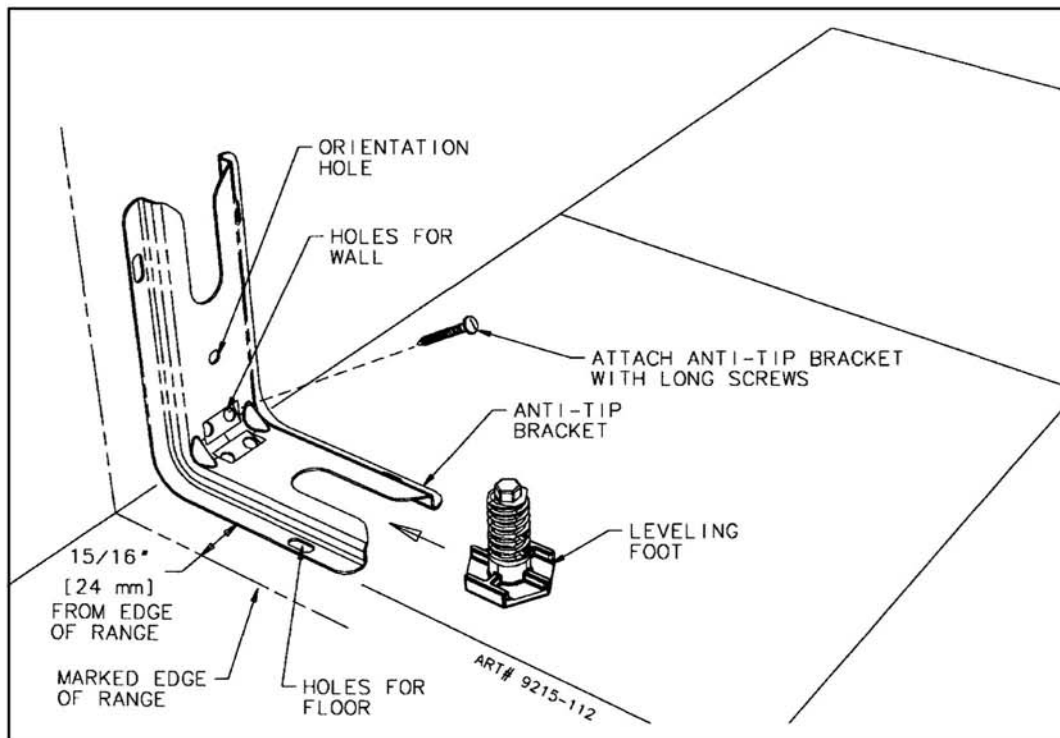
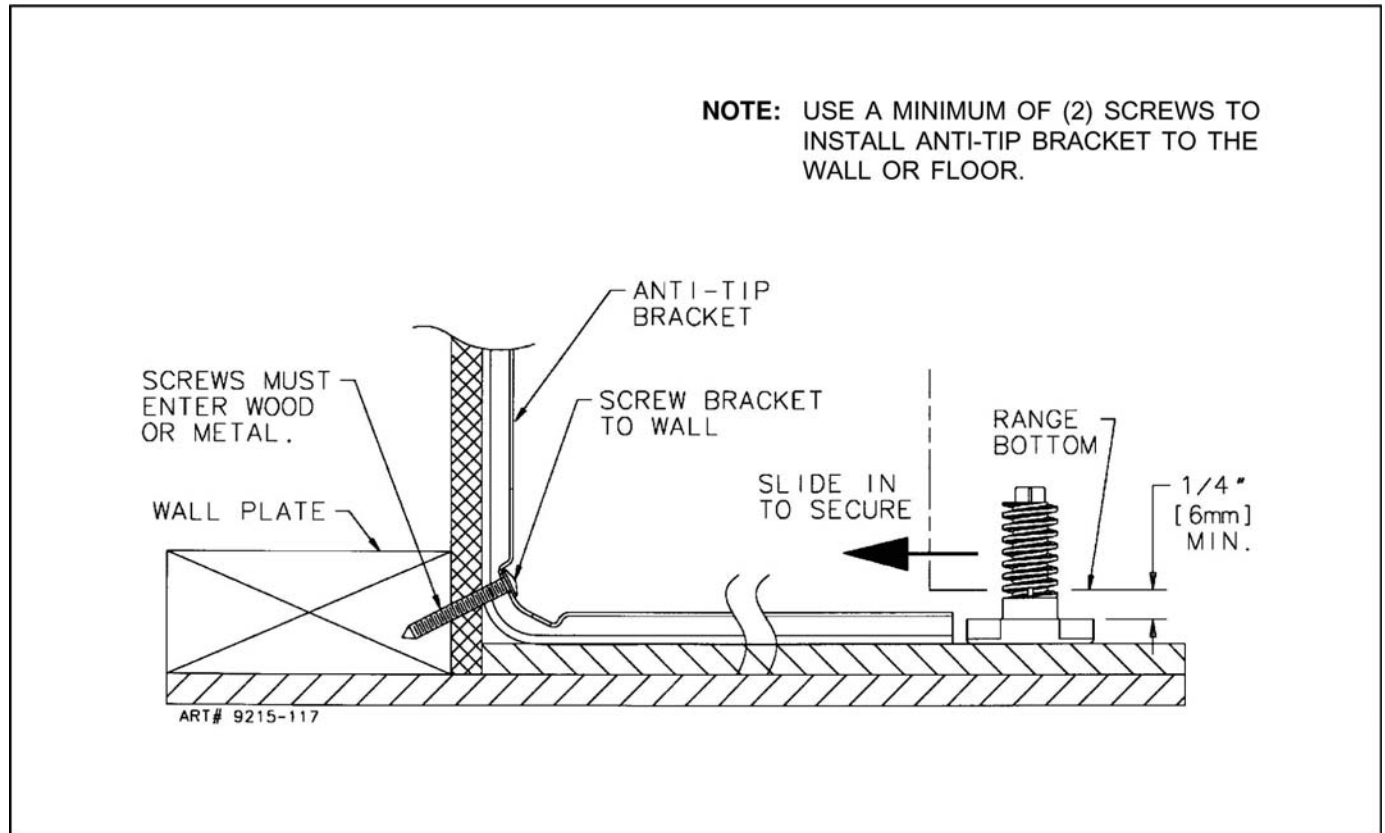

FIGURE 3
FIGURE 4
STEP 1 - Locating The Bracket (See Figure 3)
- Place the BRACKET $15/16"$ (24 mm) from the marked "EDGE" toward center of opening and against the back wall, as shown in figure 3, with orientation hole against wall.
- Use the bracket as a template and mark the required holes, as shown in figure 3 for the type of construction you will be using.
- Floor:** Locate the center of the two holes identified in figure 3 as "HOLES FOR FLOOR". Drill a $1/8"$ (3 mm) pilot hole in the center of each hole (a nail or awl may be used if a drill is not available). Secure the ANTI-TIP bracket to the floor with the two screws provided. Proceed to Step 3.
- Wall:** Locate the center of the two holes identified in figure 3 as "HOLES FOR WALL". Drill an angled $1/8"$ (3 mm) pilot hole in the center of each hole as shown in figure 4. (A nail or awl may be used if a drill is not available). Secure the ANTI-TIP bracket to the wall with the two screws provided as shown in figure 4. Proceed to STEP 3.
- Suitable screws for concrete construction can be obtained at the hardware store. Drill the required size hole for the hardware obtained into the concrete at the center of the holes identified in figure 3 as "HOLES FOR FLOOR". Secure the ANTI-TIP bracket to the floor. Proceed to STEP 3.
- B. Align the range to its designated location and slide it back into position. Note: A minimum clearance of 1/4" (6 mm) is required between the range and the leveling foot that will engage the ANTI-TIP bracket, see figure 4.